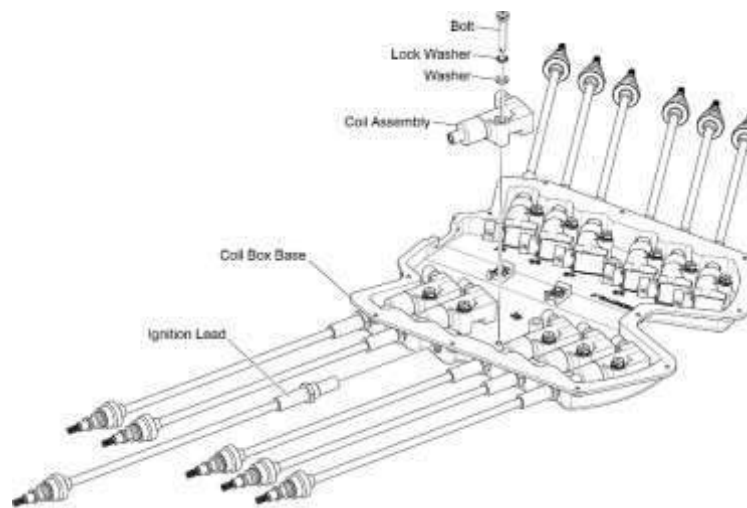

Figure 8
- C. Install the ignition lead into the lower half of the coil box (Figure 8). Tighten hand tight.
- E. Install the coil assembly in the lower half of the coil box (Figure 8) and slide it horizontally into the ignition lead.